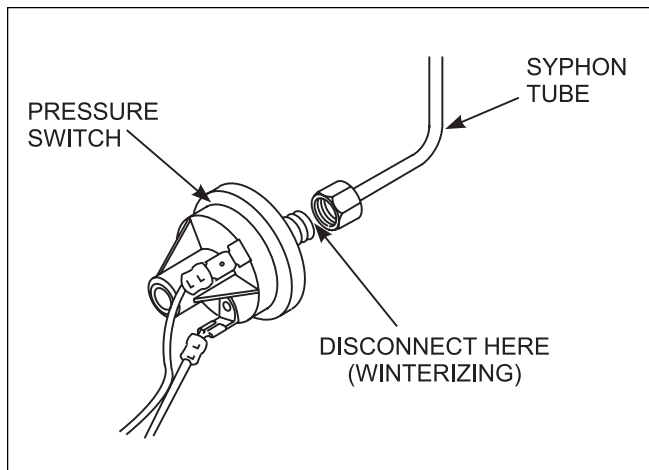

Figure 30. Winterizing the Pressure Switch
8. Disconnect the pressure switch from the siphon tube (copper tubing) (see Figure 30).
1. Attach the copper tubing to the pressure switch (see Figure 30).